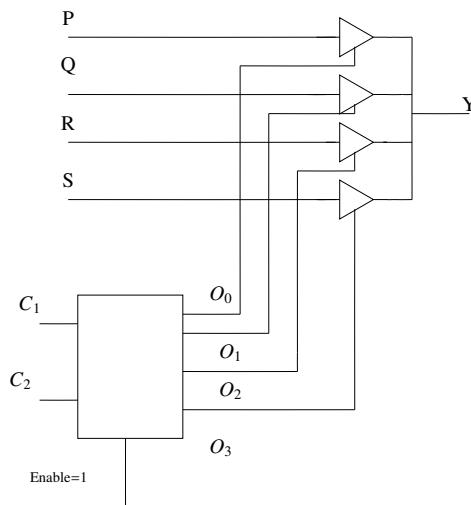

Fig. 3.28: Multiplexer
44. The functionality implemented by the circuit below in Fig. 3.28 is